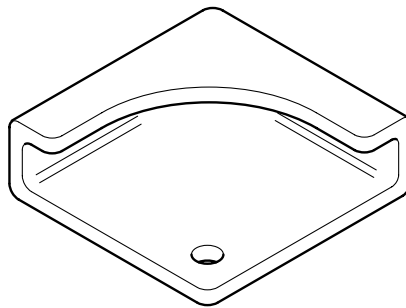

Fig. 5
- 9 Fig. 5 shows details of a protective plastic corner.